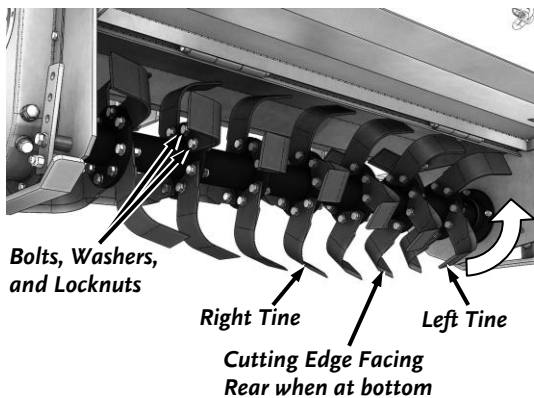

Figure 30
Note: Your DR 52” Rototiller has a total of 28 Tines. 14 of them are Left Tines and 14 are Right Tines. When installed correctly, the Left Tine will point towards the Left of the Tiller and the Right Tine will point towards the right of the Tiller (**Figure 30**). The Tines are installed correctly when the Cutting Edge is facing towards the rear when at the bottom of its rotation.
2. Remove the Bolts, Washers, and Locknuts from the Worn or Damaged Tine using an 18mm Wrench for the Bolt and a 19mm Wrench for the Locknut (**Figure 30**).